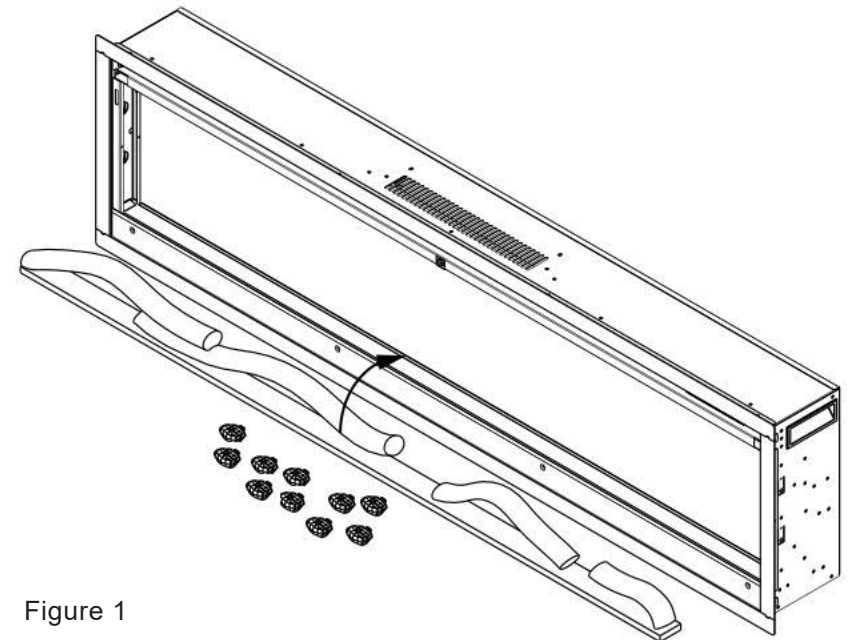

Figure 1
* If your fireplace comes with log-set, remove the log-set from the package, put it to the fireplace designed place. Figure 1
* Then place the crystal embers carefully into the bottom tray on the front of the appliance as illustrated. Apply an even layer from side to side. Figure 1